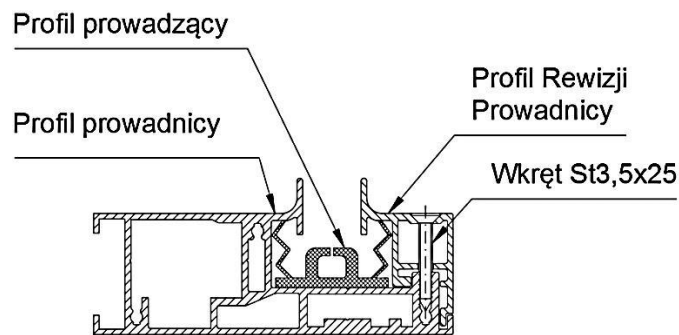

Figure 7: Construction of the guide.
- The design of the guide is shown in Figure 7.